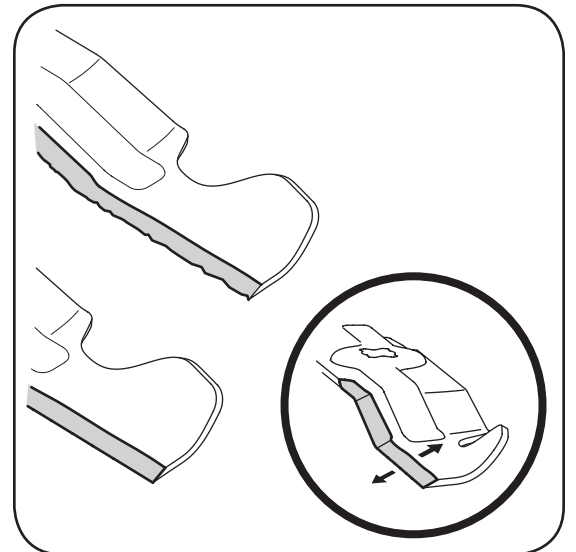

Figure 5-13: Grind cutting edges following angle.
1. To properly sharpen the cutting blades, remove equal amounts of metal from both ends of the blades along the cutting edges, parallel to the trailing edge, at a 25° to 30° angle, Figure 5-13.